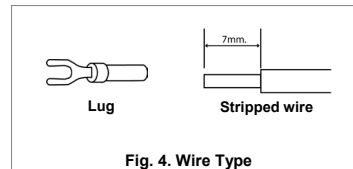

Fig. 4: Wire Type
- Use flexible cable (stranded or solid) of AWG No. 20-12. The input/output connectors' allowable current is 23A max per pin. User should calculate and select the suitable wire specification (type/quantity/diameter) according to actual output current. The torque at the connector shall not exceed 13Kgf.cm. The insulation stripping length should not exceed 0.275" or 7mm (Refer to Fig. 4).